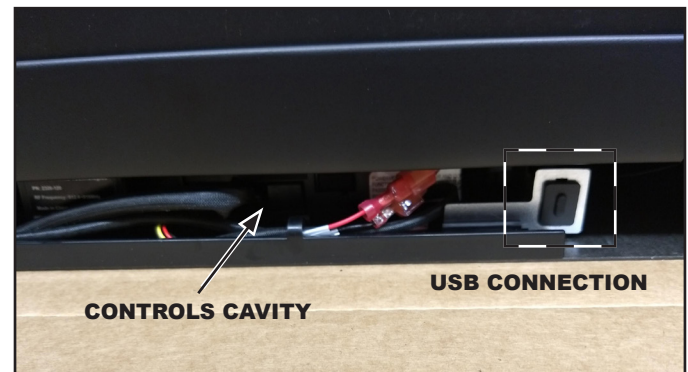

Figure 3.8
5. Locate the USB-C connector on the appliance as shown in Figure 3.8. Remove rubber plug from the USB-C port and insert the battery backup power source USB-C connector into the appliance USB-C port. Save USB-C rubber plug for reusing after power has been restored.
1. The Electronic Control Module (IFT-ECM) has a three-position ON/OFF/REMOTE selector switch that must be set for proper operation. See Figure 3.8. When changing switch positions, it is important to pause in each position for 1-2 seconds.